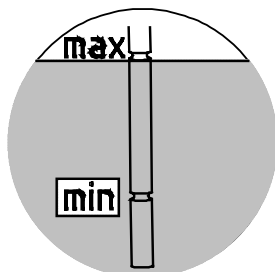

Figure 23: Checking the oil level with a dipstick
4. **Gear units with oil tank:** Der The oil level must be checked with the aid of the cap screw with dipstick (G1¼ thread) in the oil tank. The oil level must be between the top and bottom marking when the dipstick is fully screwed in (see Figure 23). Top up the oil level with the relevant type of oil